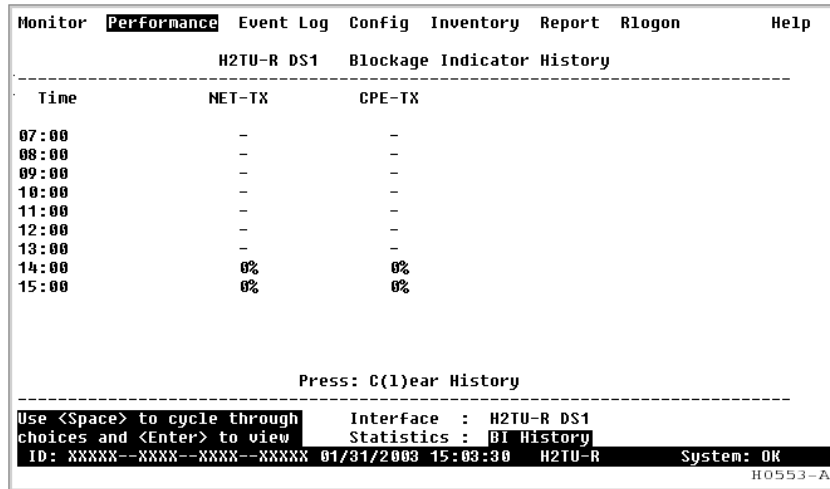
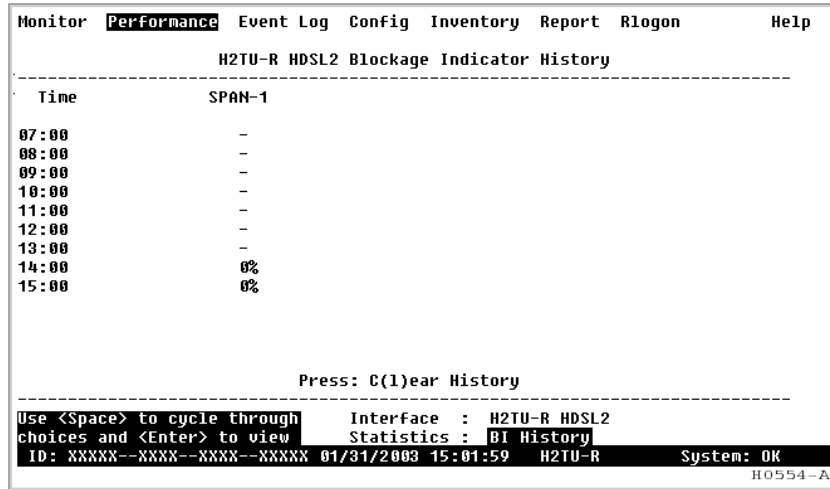

Figure 19. H2TU-R DS1 Blockage Indicator History Screen
Figure 20. H2TU-R HDSL2 Blockage Indicator History Screen
Figure 19 and Figure 20 on page 34 are examples of H2TU-R Blockage Indicator (BI) History screens as viewed from the H2TU-R following a remote logon. These screens can also be viewed when logged on locally at the remote unit. The BI statistics can also be retrieved using inband or Facility Data Link (FDL) access.